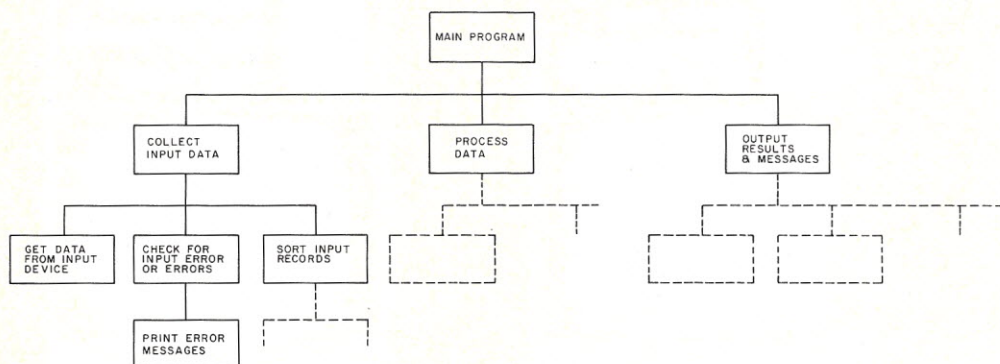

Fig. 1. Block diagram showing the overall design.
Each function is put into a module. For documentation purposes make a chart, as shown in Fig. 1, showing the overall design. Then for each module show: (1) the inputs required (the inputs might be from some input device or data from other modules), (2) the main function of the module, (3) the name of the other modules called by this one, and (4) the output data (which again might be on output devices or passed